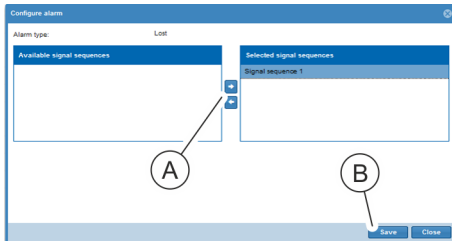

Fig. 132: “Configure alarm” window
13. ▶ Select a signal sequence in the “Configure alarm” window and use the “→” button (Fig. 132/Ⓐ) to move it into the “*Selected signal sequences*” field. Confirm the selection by clicking the “*Save*” (Fig. 132/©) button.